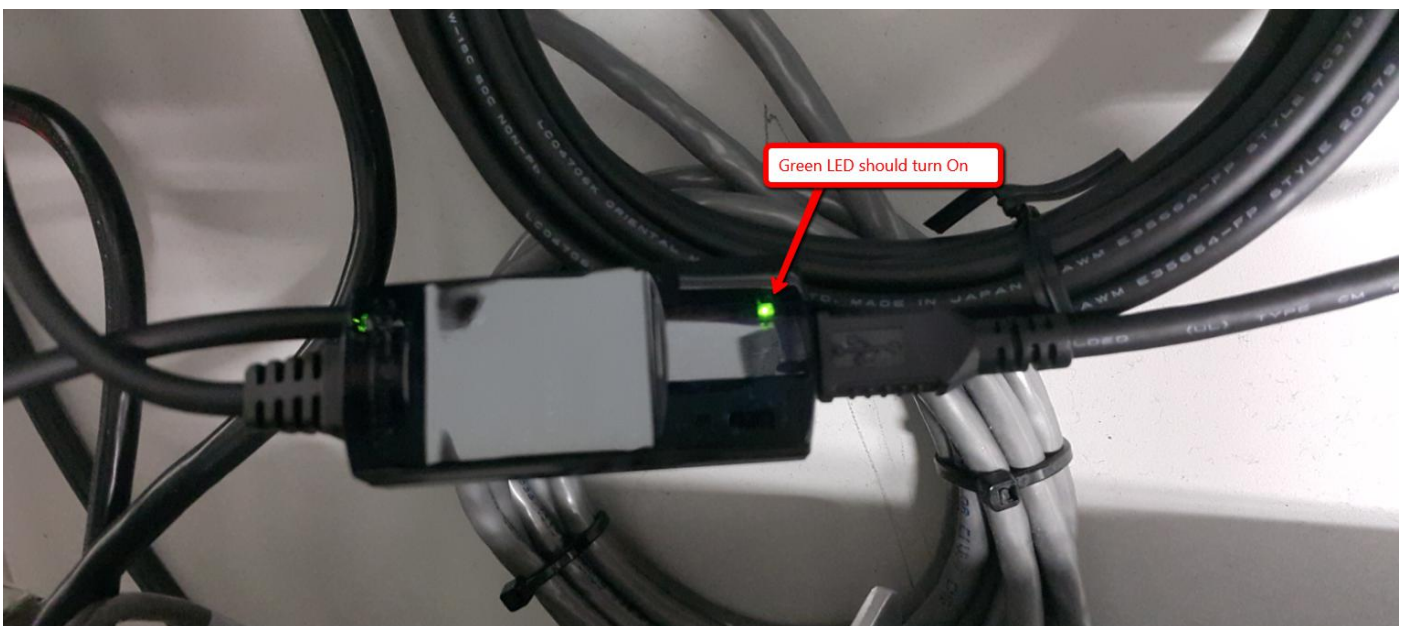

Figure 4 Communication cable
- Once the cable is connected as shown in the Step (2), a Green LED should turn on the Communication Cable USB to Driver as shown in the Figure 4. If the LED does not turn on, unplug then plug again the USB Cable at Atom PC until the Green LED turn on.